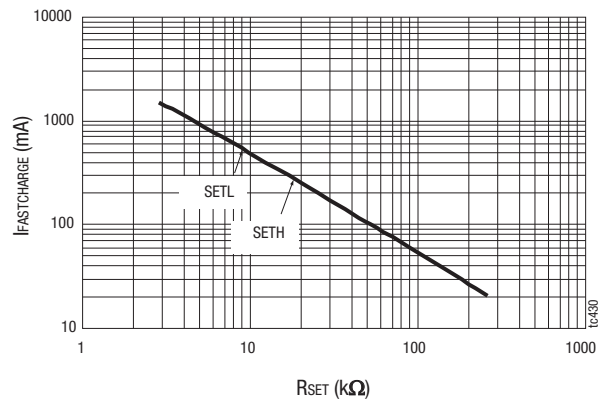

Figure 26. IFASTCHARGE VS RSET
The fast charge constant current charge control provides for two current set levels, SETH and SETL. The PWRSEL pin is used to select the high or low charge current levels. When the PWRSEL pin is pulled to a voltage level above the VPWRSEL(H) threshold, the SETH current level will be selected. Conversely, this pin should be pulled below the VPWRSEL(L) to enable the SETL charge level. These two charge levels may be set to any level between 50 mA and 1 A, depending upon the system design requirements for a given charge application. Refer to Table 6 and Figure 26 for recommended RSETH and RSETL values.